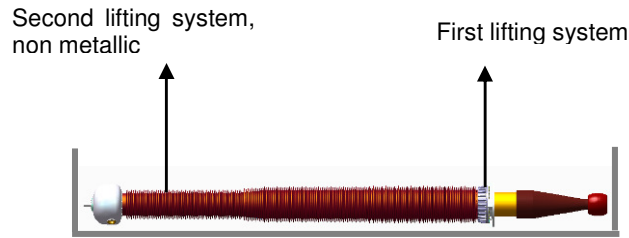

Fig. 5a
- Apply a rope at the two casted lifting holes on the flange (from second and third) (fig. 5a).